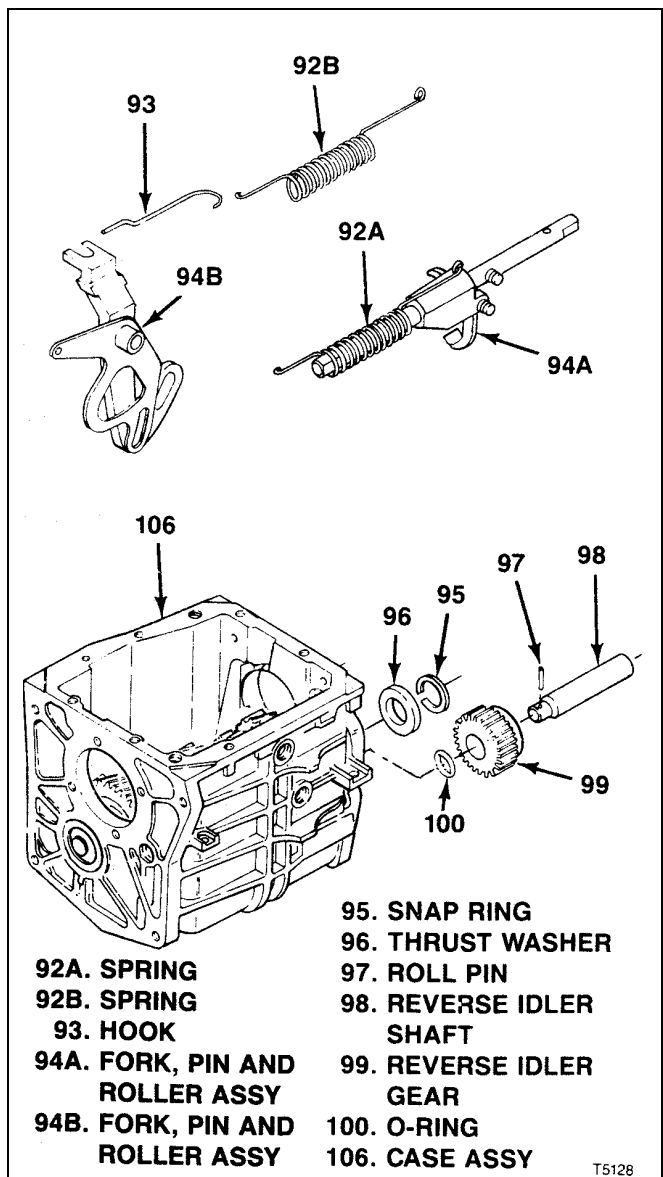

Figure 4-11. STD Reverse Fork and Idler Gear
On some units, 5-R shift lever is permanently attached to reverse fork, pin and roller assembly (94B, figure 4-11). Removal of 5-R shift lever as described in the following step must be deferred until reverse fork, pin and roller assembly is removed.
**4-17. REMOVAL OF T5 STD REVERSE FORK AND IDLER GEAR** (see figure 4-11).
2. Unhook and remove spring (92B), hook (93) and fork, pin and roller assembly (94B) (with attached lever).
- a. Remove snap ring (95) and thrust washer (96).
- b. Drive out roll pin (97) holding reverse idler shaft (98) in transmission case (106).
- c. Push reverse idler shaft (98) out rear of transmission case (106).
- d. Remove roll pin (97), reverse idler gear assembly (99) and o-ring (100) from transmission case (106).